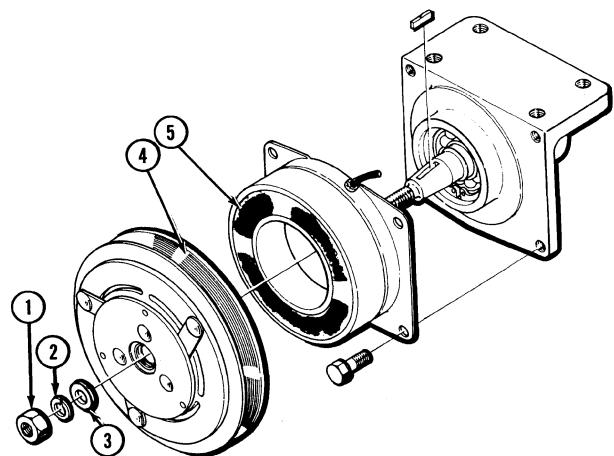

**Figure 15**
**NOTE:** The Ford 1100 PTO drive has shims between the support bracket (1) and frame (2), Figure 15. When disassembling note the number and thickness of the shims to facilitate assembly. Remove the coupling (4), Figure 15, from the crankshaft.
2. Align the PTO shaft to the crankshaft with shims on the Ford 1300-1900 tractors. Refer to Figure 15.